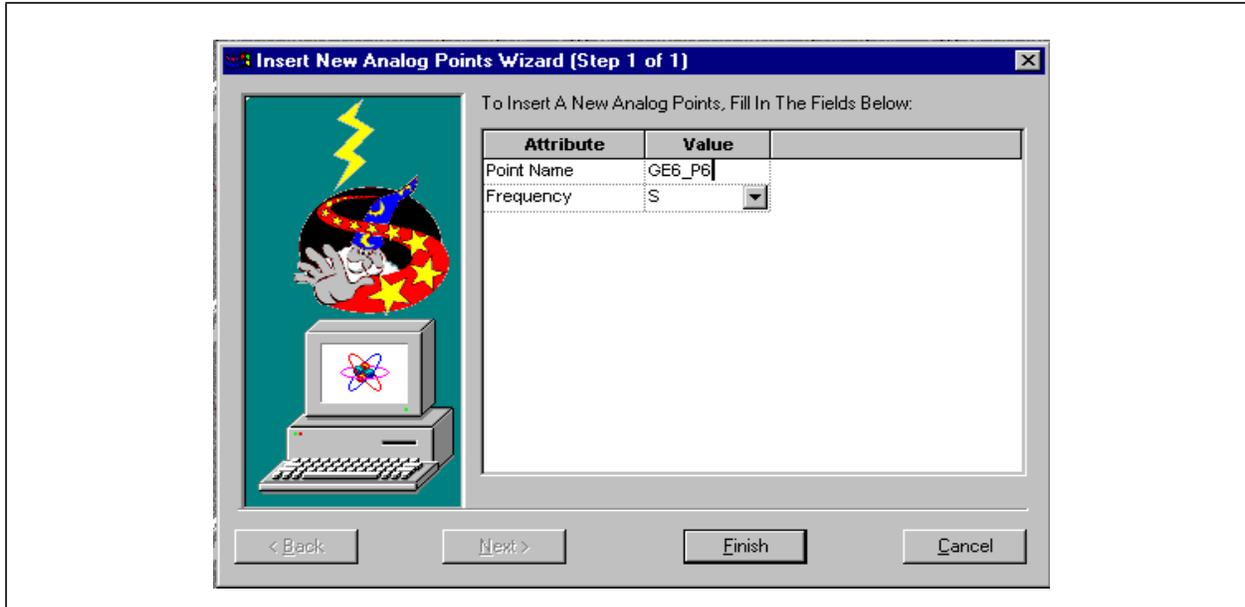

Figure 3-11. Insert New Points Wizard
- The Insert New <Points Type> Points Wizard appears (see Figure 3-11). Fill in the Point Name and Frequency (**S**-Slow (1 sec.), **F**-Fast (0.1 sec.), or **A**-Aperiodic (as needed), then click **Finish**.